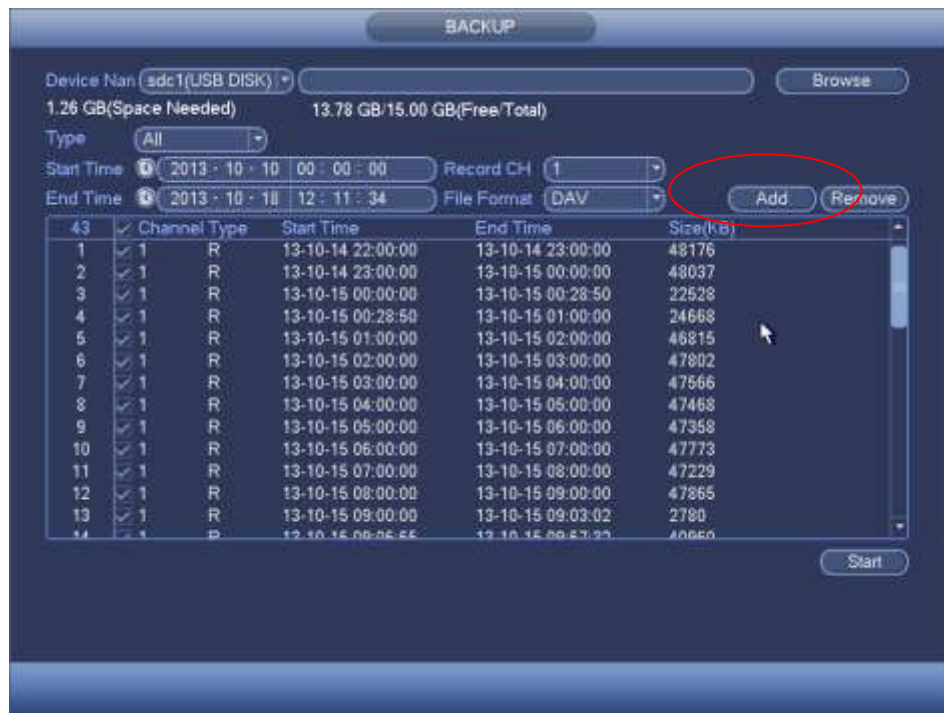

Figure 4-85
- d) Click add button, system begins search. All matched files are listed below. System automatically calculates the capacity needed and remained. See Figure 4-85.